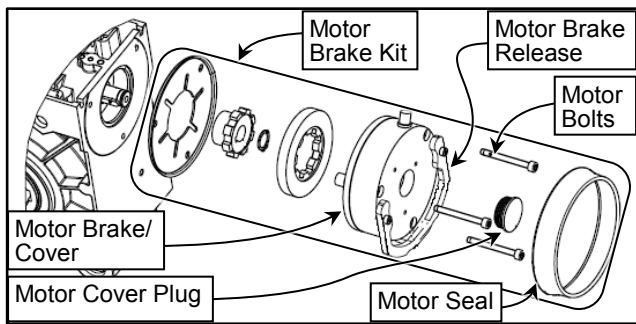

Figure 46
7. Replace the brake components that come as a kit from RYTEC exactly the same way they were removed. The bolts, plug, & seal may be reused. (See Figure 46)